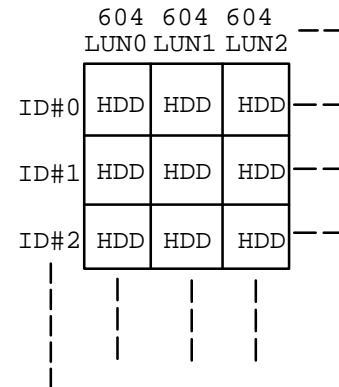

Fig. 2 HDD Array Mapping Scheme
2. When the Target in the disk array system (MB86605) responds to any of ID #1 HDD and then LUN2 INIT (MB86604) was specified in command phase, LUN2 INIT (MB86604) will nexus with the ID #1 HDD connected with the LUN2 INIT and write data received from host chip into the ID#1 HDD. (See Fig. 2.)